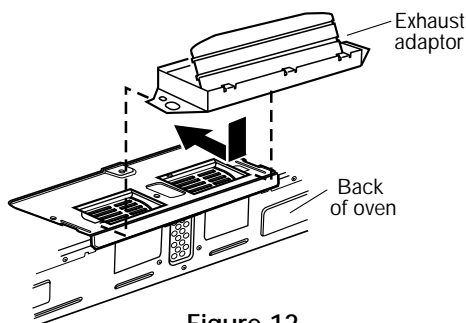

Figure 12
1. Attach the exhaust adaptor to the blower plate by sliding it into the guides (see Figure 12).